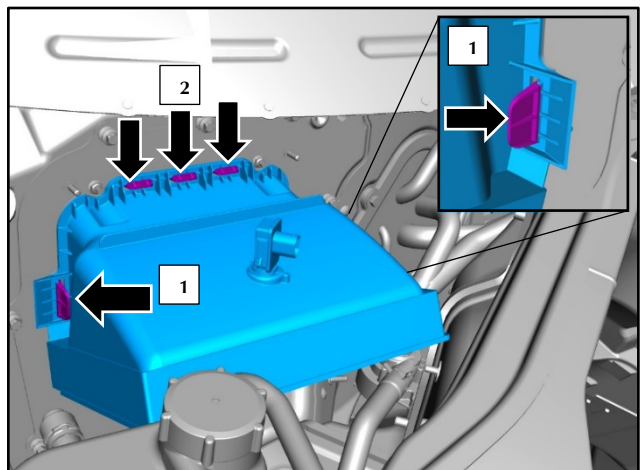

Figure 2
3. Release the clips '1' that attach the heater inlet duct securing. Remove the duct from the upper mounts '2'. (refer to Figure 2).